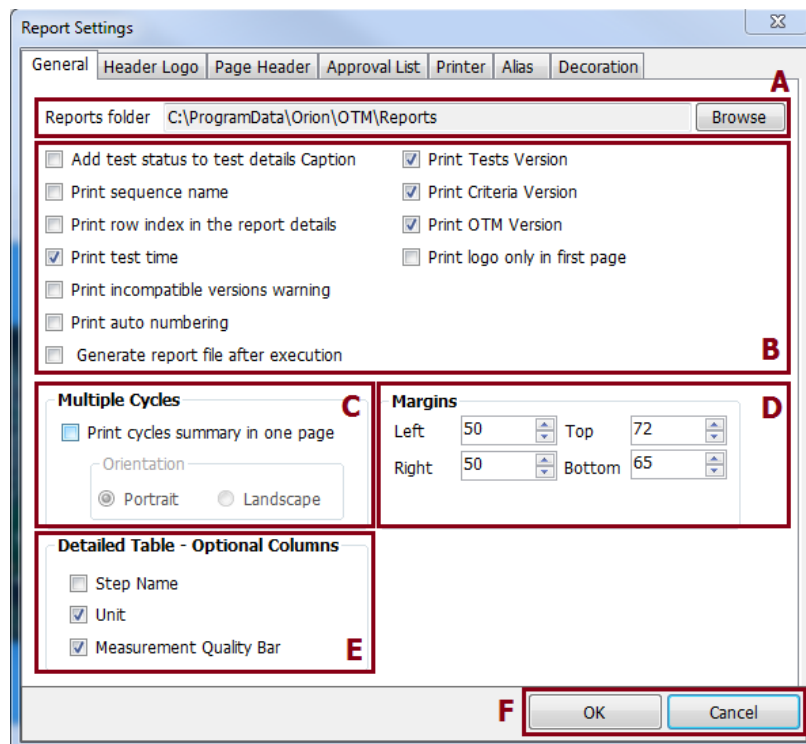

Fig 4-9 Reports settings window – General tab
- Click button, Fig 4-9 \(A\), the **Browse For Folder** screen will open.